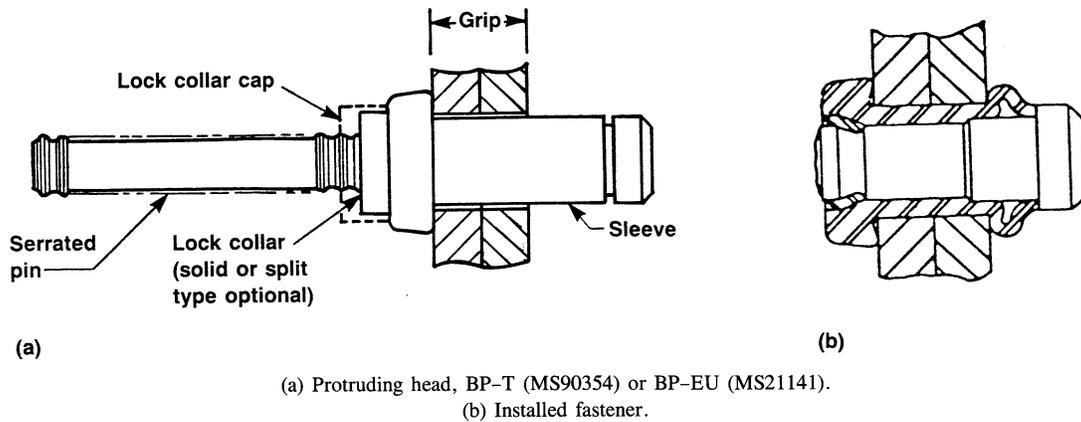

Figure 46.—Huck blind rivets.
**Huck blind rivets.**—Huck blind rivets15 are similar to Cherry rivets, except that they are available in higher strength material. These rivets are made with and without locking collars and with countersunk or protruding heads. Note also (in fig. 46) that the sleeve on the blind side is deformed differently on the Huck rivet than on the Cherry rivet.